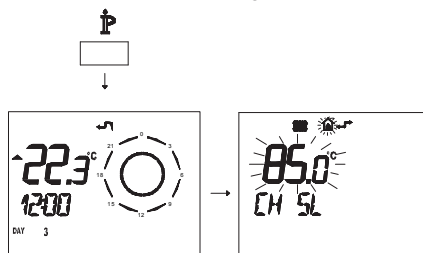

Fig. 8.26
- Press button  for more than 3 seconds to enter in **INFO** mode (Fig. 8.26).